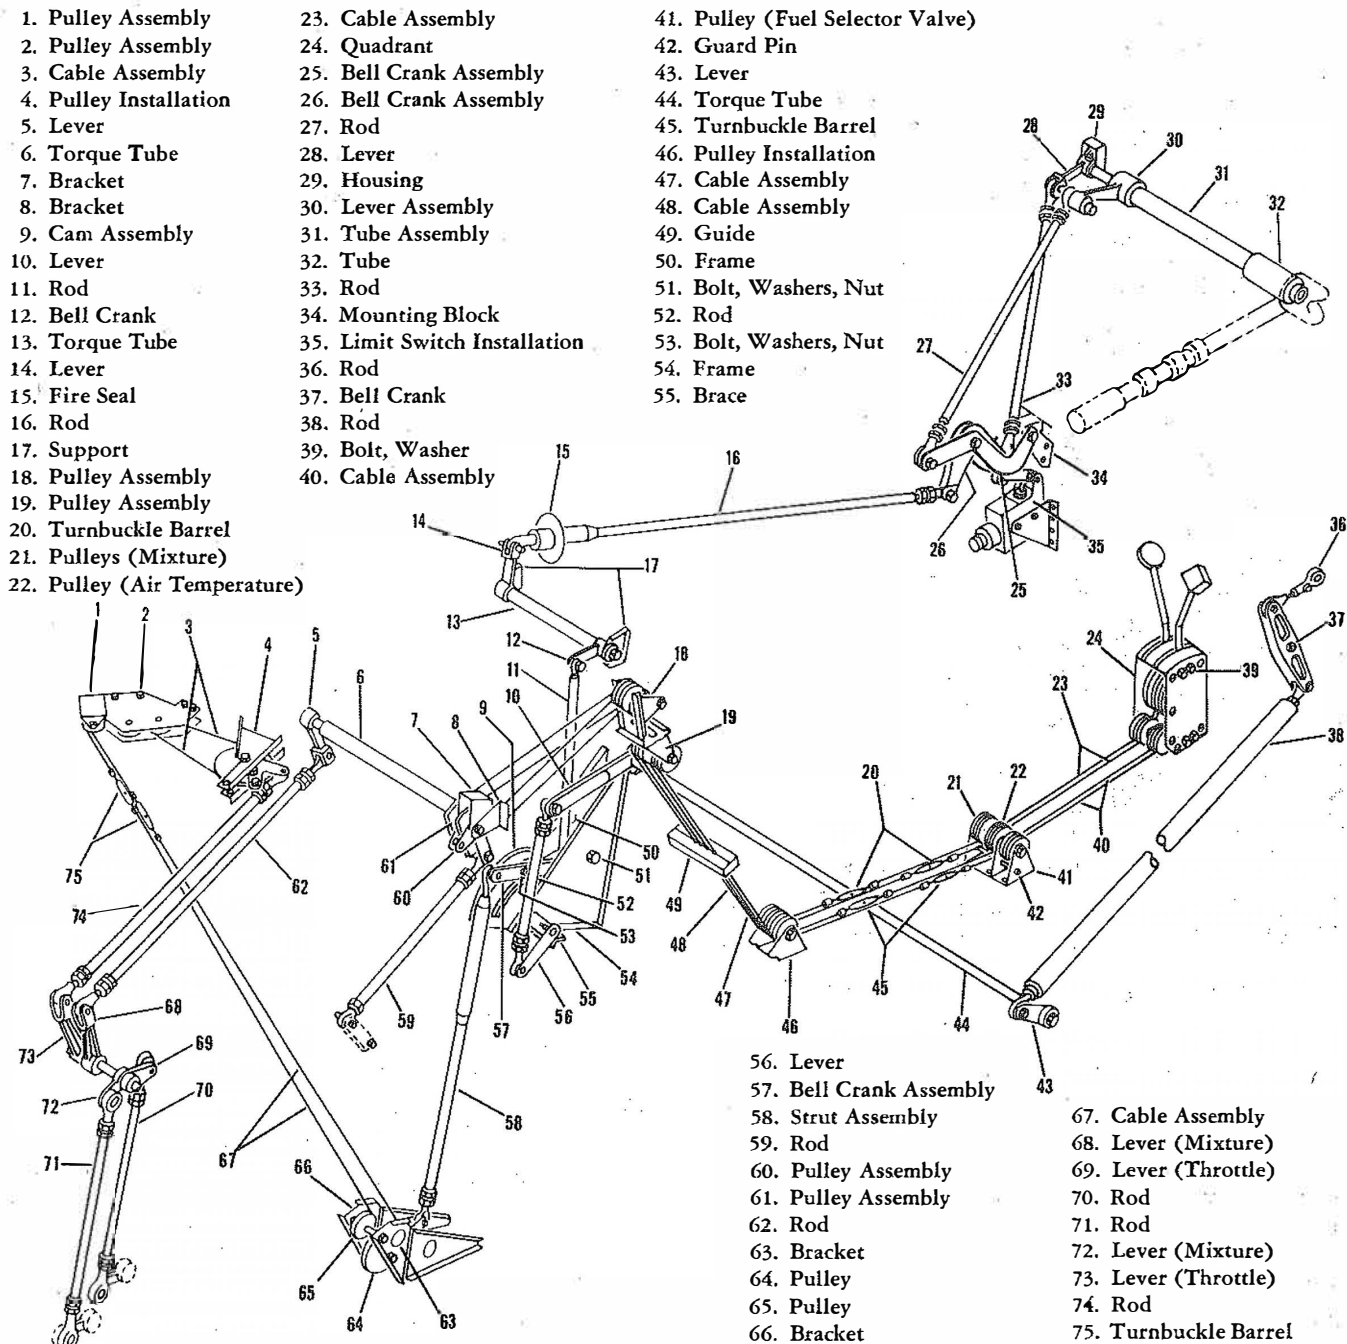

Figure 5-13. Engine Controls Diagram
5-43. DESCRIPTION. (See figure 5-13.) The engine controls consist of the throttle control system, the carburetor mixture control system, the carburetor air temperature control system and the control quadrant.
- b. Unbolt the lower end of the short throttle rod (70, figure 5-13) from the throttle arm on the carburetor.
- d. Unbolt the upper end of the short throttle rod (70) from the lever (69) inside the support assembly.